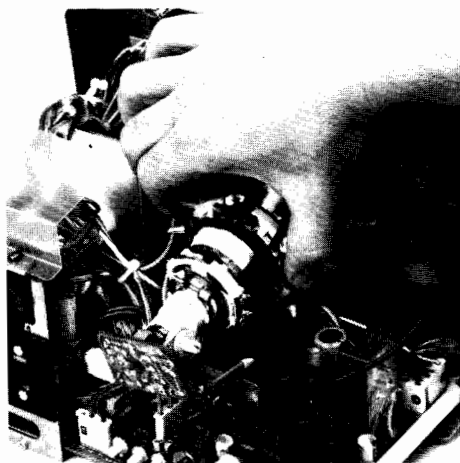

Figure 4-6. Skew Adjustment
- c. Rotating the yoke around the neck of the CRT until the line is parallel to the top and bottom of the CRT (see figure 4-6).